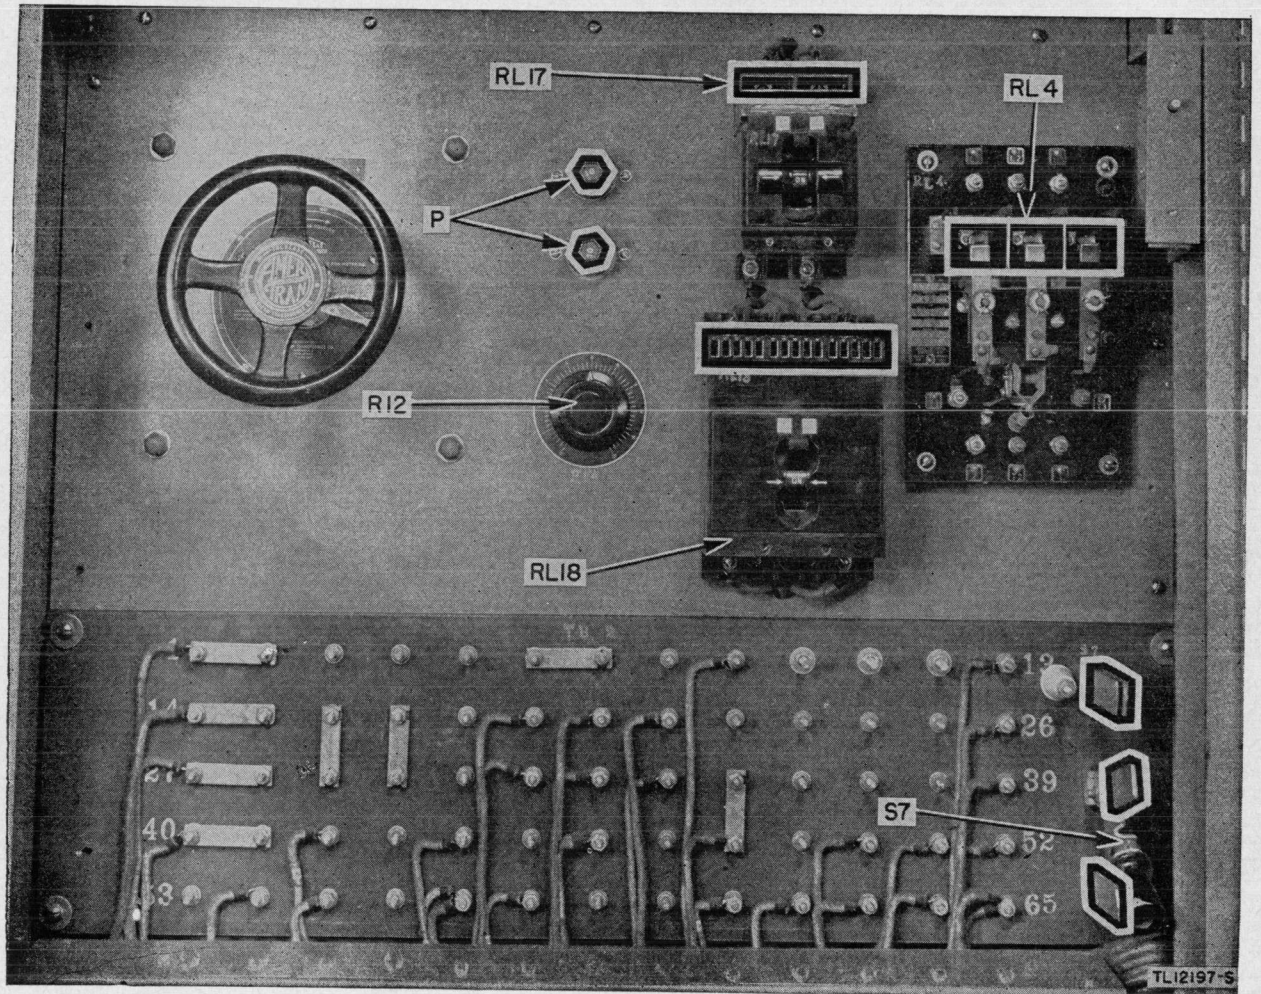
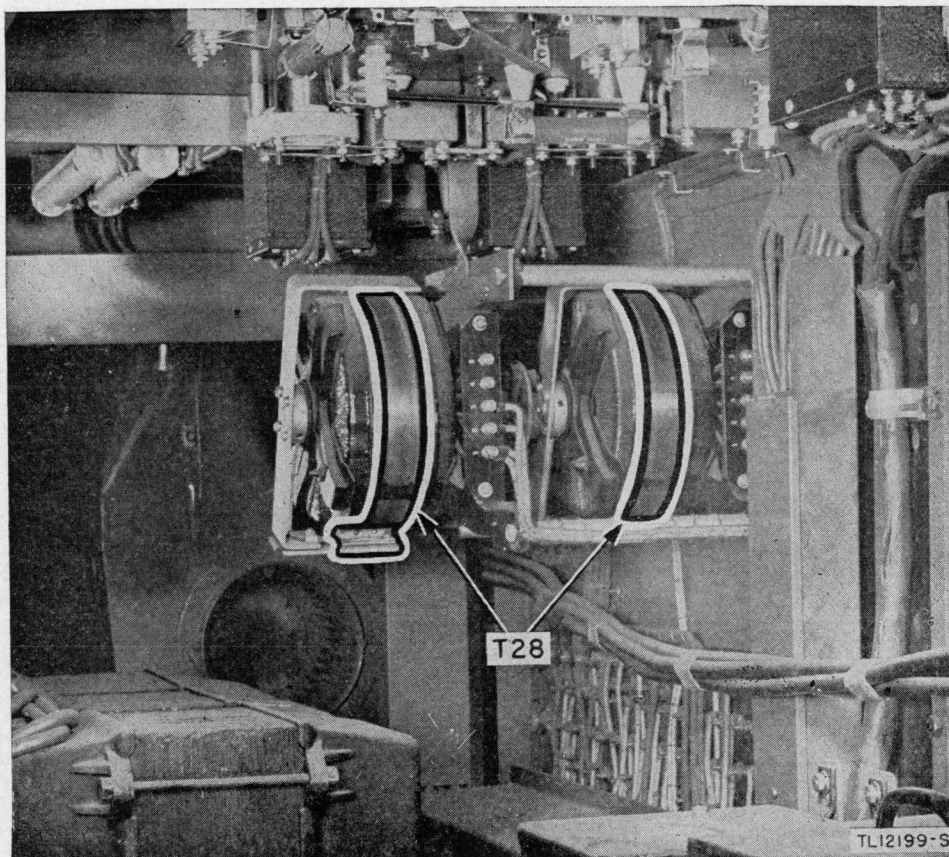

Figure 37. Terminal board No. 2.
Figure 38. Rectifier-exciter unit showing transtat T28.
*d.* MASKING. (1) Mask the contact arm and resistance element of rheostat R12 (fig. 37, back panel) and transtat T28. (See fig. 38.)
(2) Mask the openings at the top of circuit breakers RL17 and RL18. (See fig. 37.)
(3) Mask the contacts of contactor RL4. (See fig. 37.)
(4) Mask the windows of the two crystal oven fuses P. (See fig. 37.)
(5) Mask the jaws and blades of switch S7. (See fig. 37.)